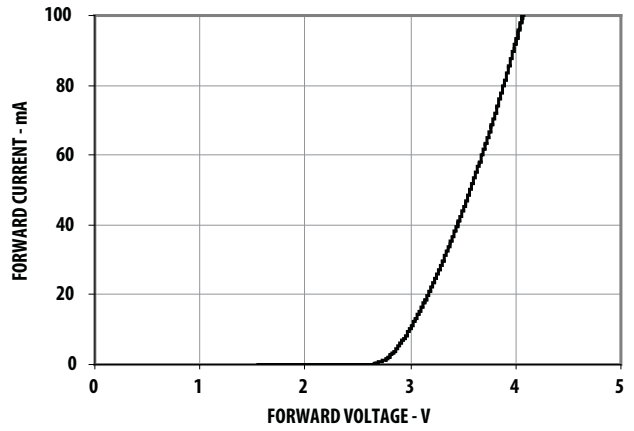

Figure 2. Forward Current vs Forward Voltage
1. Derate linearly as shown in Figure 2.